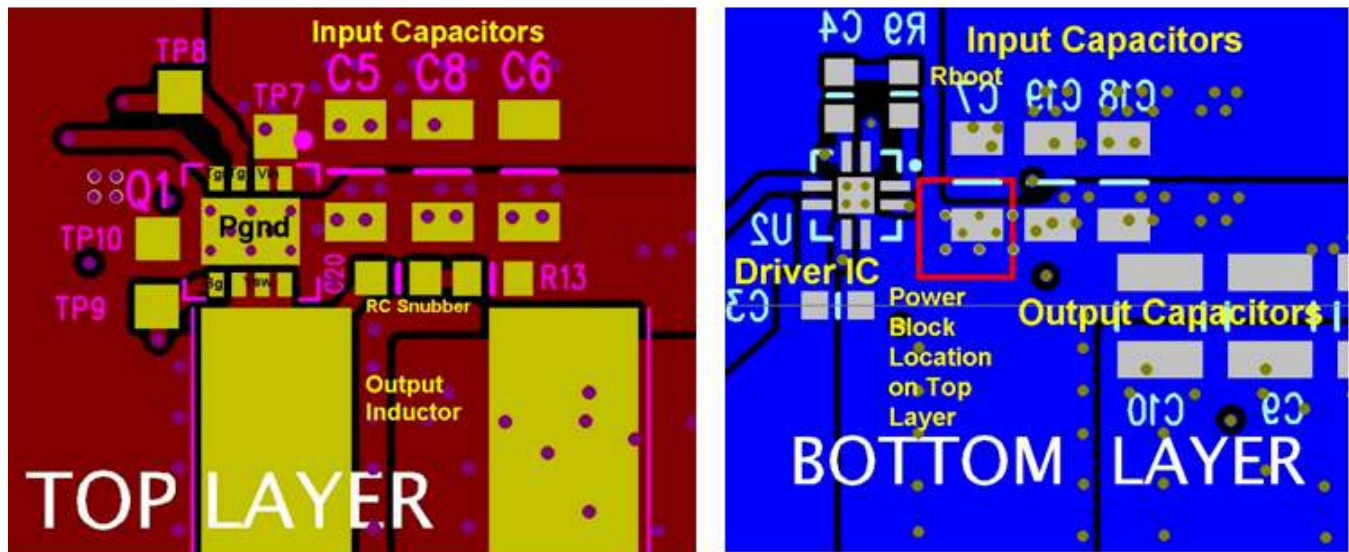

Figure 34. Recommended PCB Layout (Top Down)
- The placement of the input capacitors relative to the power block's VIN and PGND pins should have the highest priority during the component placement routine. It is critical to minimize these node lengths. As such, ceramic input capacitors need to be placed as close as possible to the VIN and PGND pins (see Figure 34). The example in Figure 34 uses 6 × 10- μ F ceramic capacitors (TDK C3216X5R1C106KT or equivalent). Notice there are ceramic capacitors on both sides of the board with an appropriate amount of vias interconnecting both layers. In terms of priority of placement next to the power block, C5, C7, C19, and C8 should follow in order.
- The switching node of the output inductor should be placed relatively close to the power block VSW pins. Minimizing the node length between these two components will reduce the PCB conduction losses and actually reduce the switching noise level. In the event the switch node waveform exhibits ringing that reaches undesirable levels, the use of a boost resistor or RC snubber can be an effective way to easily reduce the peak ring level. The recommended boost resistor value will range between 1 Ω to 4.7 Ω depending on the output characteristics of driver IC used in conjunction with the power block. The RC snubber values can range from 0.5 Ω to 2.2 Ω for the R and 330 pF to 2200 pF for the C. Please refer to Snubber Circuits: Theory, Design and Application (SLUP100) for more details on how to properly tune the RC snubber values. The RC snubber should be placed as close as possible to the Vsw node and PGND see Figure 34. ⁽¹⁾
- Use the smallest drill size allowed in your design. The example in Figure 34 uses vias with a 10-mil drill hole and a 16-mil capture pad.